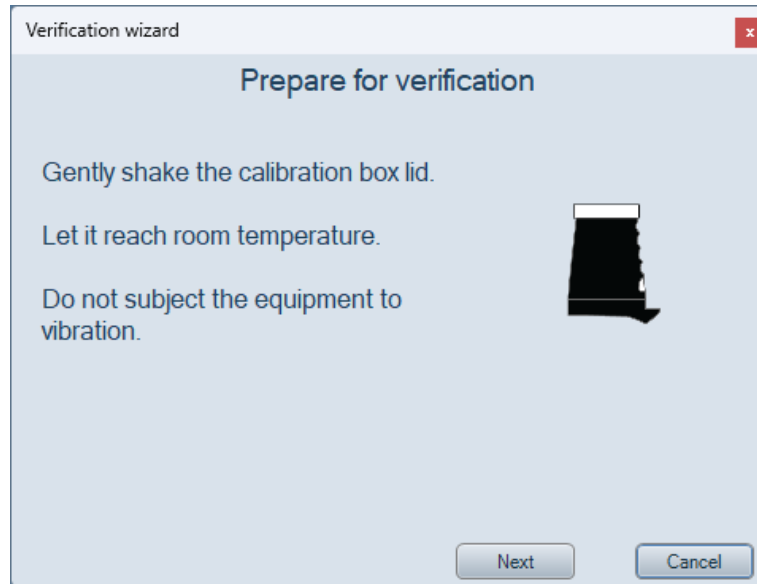

Figure 11-3 Prepare for verification.
4. Prepare for verification by following the instructions in the wizard, see Figure 11-3. Then click *Next*.